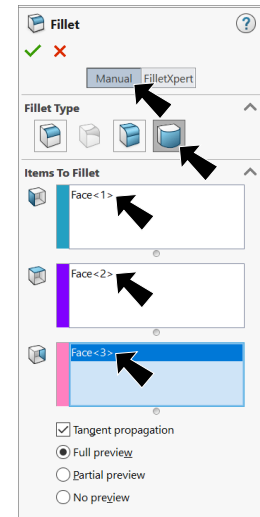

Fig. 25
Step 2. In the Fillet Property Manager, select **Manual**, **Fig. 25** under Fillet Type
click in **Center Face Set**  box, **Fig. 25**
click in **Side Face Set 2**  box, **Fig. 25**